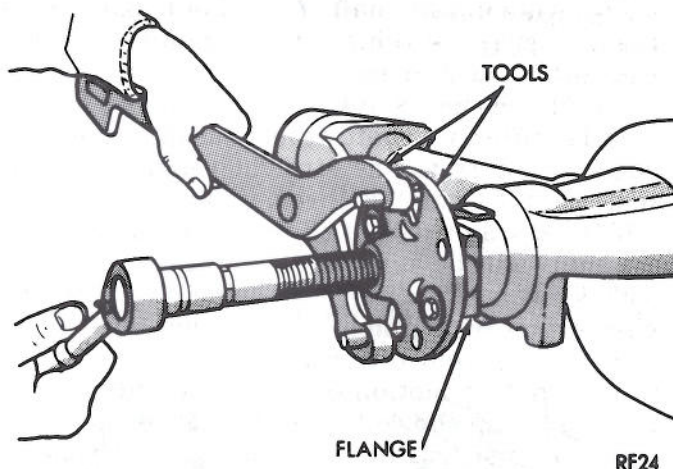

Fig. 14—Removing Drive Pinion Companion Flange (Typical)
(16) Using an inch-pound torque wrench, measure pinion bearing preload and record. Remove drive pinion nut and washer. Using Tool C-452 and holding Tool C-3281 remove drive pinion flange (Fig. 14).
(17) Using Tool C-748 or a screwdriver tip and hammer, remove the drive pinion oil seal from carrier casting and discard.
(18) To remove drive pinion or front pinion bearing cone, the pinion stem must be driven rearward out of the bearing. **This will result in damage to bearing rollers and cups and both bearing cone and cup must be replaced with new parts. Discard collapsible spacer.**
(19) Using Tool C-4306 removers and C-4171 handle, remove front and rear bearing cups from housing.